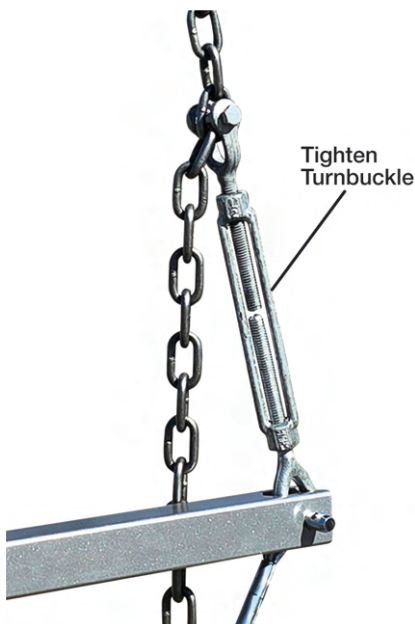

Figure 7-20: Tightening Turnbuckles
10. Tighten the guy wires by tightening the turnbuckles (see Figure 7-20). Tension each side equally, moving from side to side as you tighten the turnbuckles. This ensures the mast stays vertical and is not pulled to one side. Tighten until guy wires are taut.